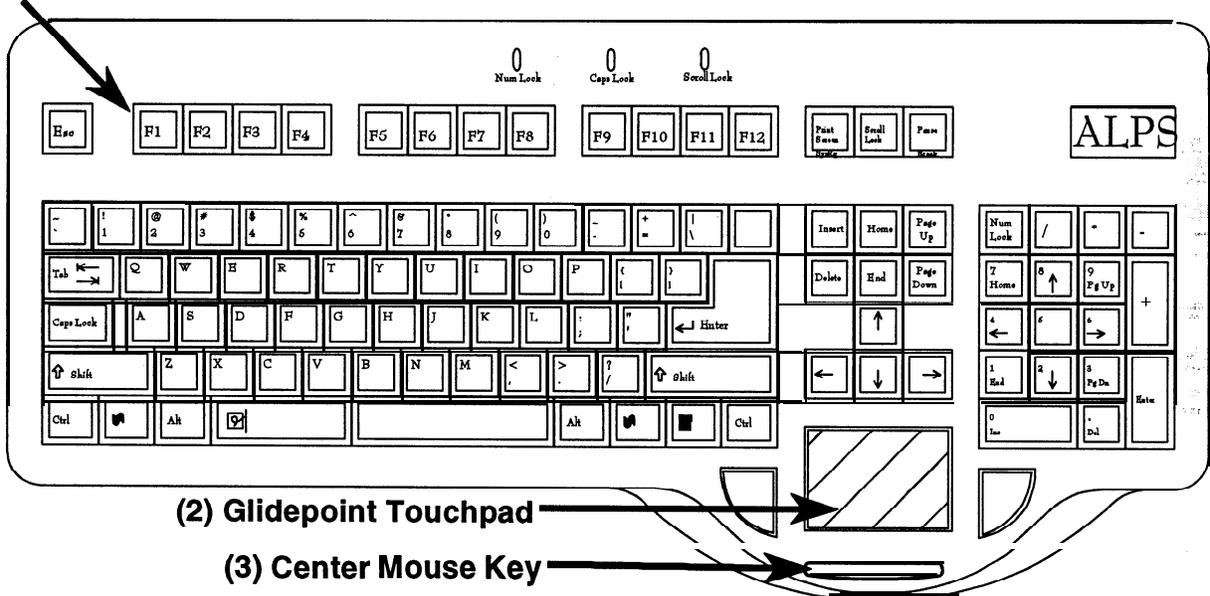

Figure 2-4. Glidepoint Keyboard
2.1.4 Glidepoint Keyboard. The keyboard (Figure 2-4), located on a pull-out shelf below the I/O Control Panel, allows the I/O to control the training by selecting, initiating, controlling, and recording tasks at the IOS.